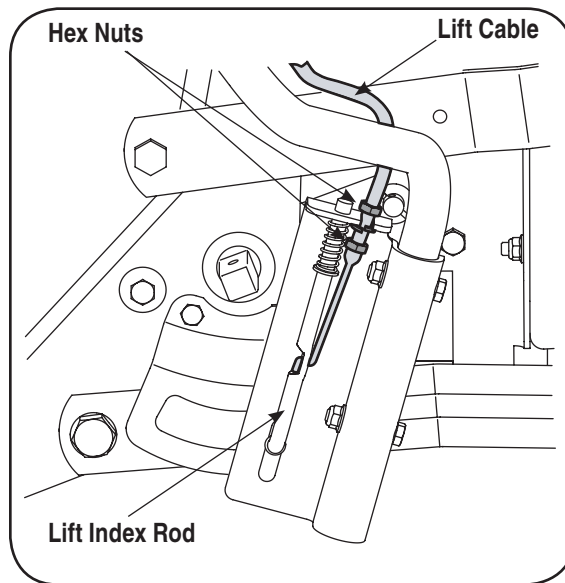

Figure 11-1
1. Loosen the upper hex nut a few turns, then tighten the lower hex nut to shorten the cable length. See Fig. 11-1.
2. Loosen the lower hex nut a few turns, then tighten the upper hex nut to lengthen the cable. See Fig. 11-1.